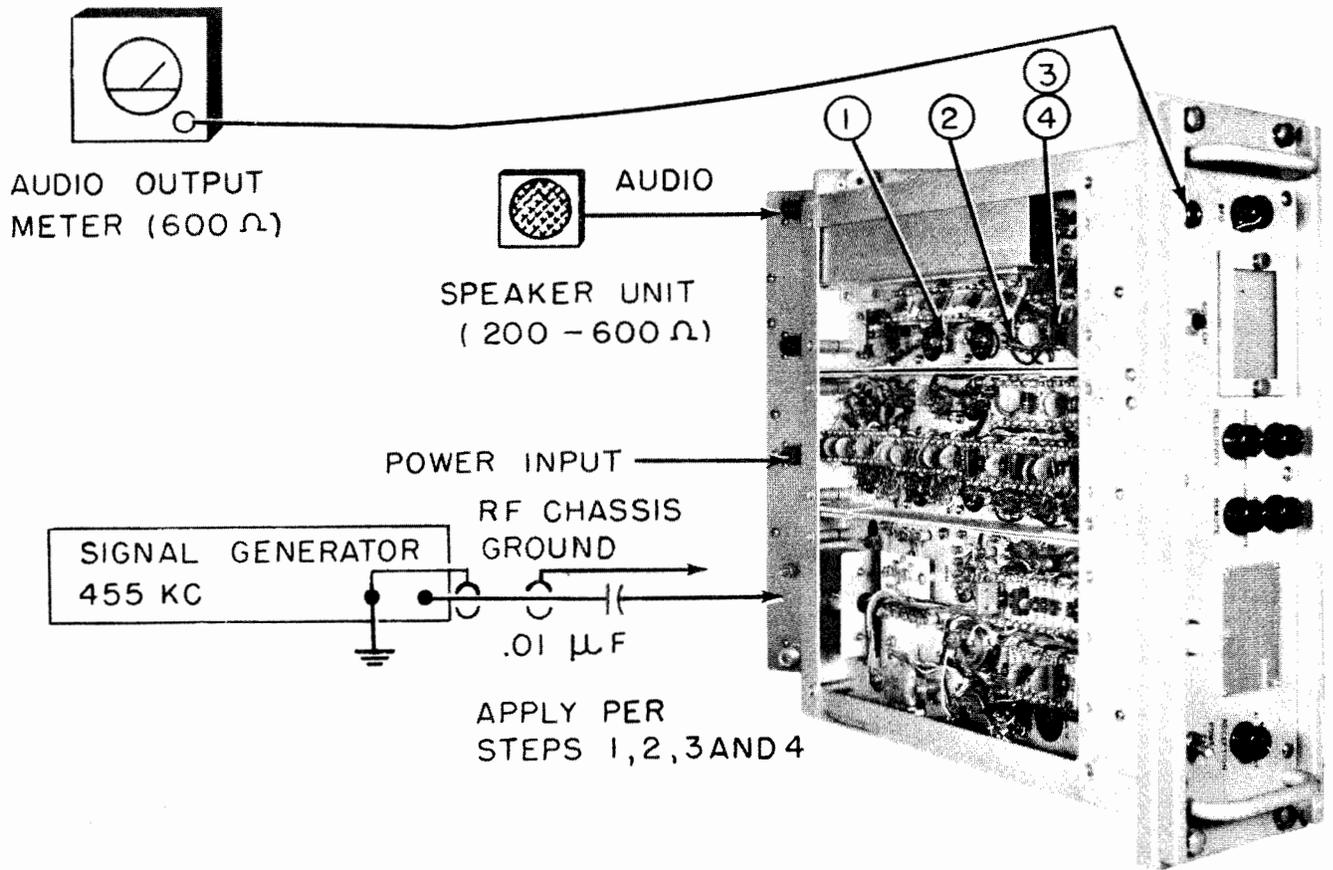
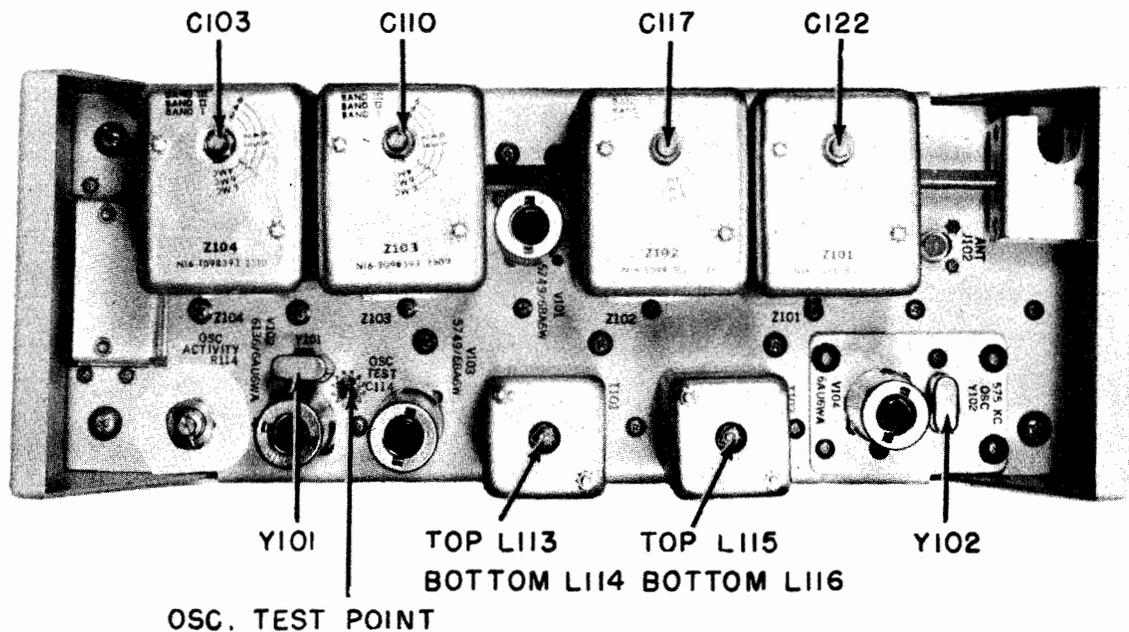
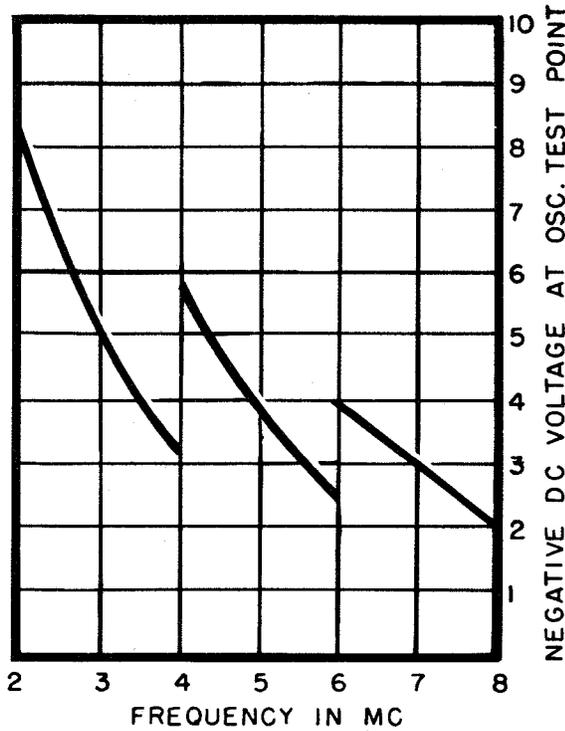

Figure 7-3. 455 Kc IF Amplifier Alignment Set-up
Figure 7-4. Top View of the RF Chassis Showing Coils, Condensers, Crystals and Test Points
Figure 7-5. Channel Determining Oscillator, Frequency vs Voltage
(3) Align 455 Kc IF transformers. (See Fig. 7-3.)
f. 575 Kc OSCILLATOR.—This oscillator has no means of adjustment, and should function normally by inserting the 575 Kc crystal (Y102). (See Fig. 7-4.) When the crystal is inserted, the DC grid voltage as measured on pin #1 of XV104 should be checked. It should be approximately -2.4 volts DC. No further checks are necessary unless the circuit is not functioning properly.
(1) Turn the RECEPTION switch (S301) located on the front panel to A2-A3 reception.
(2) Turn the AF LEVEL control (R301) located on the Audio/Power Supply chassis to 70% rotation.
(3) See that the 575 Kc crystal (Y102) is inserted in its socket and is oscillating properly. This can be checked by measuring the DC voltage present from Pin #1 to ground, across R112 of V104 (575 Kc oscillator). For proper oscillation this voltage should be approximately  $-2.4$  V DC.
(4) Make certain that the SELECTIVITY switch is in the SHARP position.
(5) Refer to Figure 7-3 for proper signal generator and audio output meter connections.
(1) Insert channel determining crystal Y101 in socket XY101.
(2) Connect the receiver and vacuum tube voltmeter as indicated in figure 7-3 and proceed with the adjustment as indicated as in figure 7-5.
(3) OSCILLATOR ACTIVITY control (R114) is capable of varying the crystal activity over a range varying from approximately -1.8 volts to approximately -10 volts. In order to compensate for the variation in crystal activity between various crystals, this control is adjusted for a desired amount of crystal activity as measured at the OSCILLATOR TEST point C114. Below, listed in figure 7-5, are the approximate oscillator
(4) The OSCILLATOR ACTIVITY control (R114) should be adjusted for approximately 50% rotation until after the RF stages have been properly aligned.
(5) After the RF stages have been properly aligned, as indicated in table 7-5, the OSCILLATOR ACTIVITY control (R114) may be adjusted for the proper amount of crystal activity by setting the control in accordance with figure 7-5. Some variation of these values may be expected due to receiver component tolerances. This should be done when the RECEPTION switch has been set for A2-A3 operation in the absence of an incoming signal.
(8) Before the completion of the alignment, the OSCILLATOR ACTIVITY control (R114) must be adjusted for the proper amount of crystal activity by setting the control in accordance with figure 7-5. Some variation of these values may be expected due to receiver component tolerances. Voltages are measured at the OSCILLATOR TEST point (C114), with a vacuum tube voltmeter having an input impedance of at least 11 megohms. With the SELECTIVITY switch in the BROAD position, the AGC threshold of operation will be between signal input of 5-8 microvolts, if the proper amount of crystal activity is obtained. Under these circumstances the A2-A3 sensitivity for a signal-to-noise ratio of 10 db will be approximately 4 to 5 microvolts. The A1 RECEPTION switch position will afford an A- sensitivity of less than 5 microvolts when the SELECTIVITY switch (S201) is in the SHARP position.